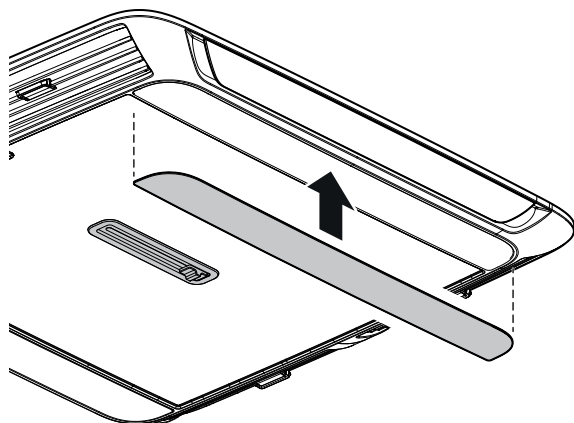

Fig. 27
- ▶ Attach both panels to the bottom of the air distributor (Fig. 27).